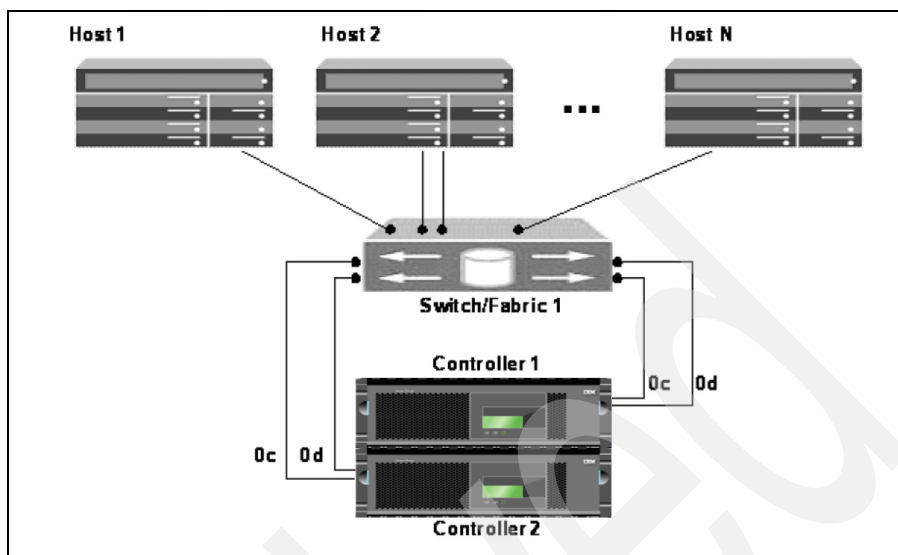

Figure 6-17 Single fabric: High-availability storage controller connect topology
- ▶ *Single fabric*: The servers are attached to N series storage controllers through a single FC fabric, as illustrated in Figure 6-17 on page 158. This fabric can consist of multiple FC switches.
Figure 6-17 on page 158 shows the single fabric topology.